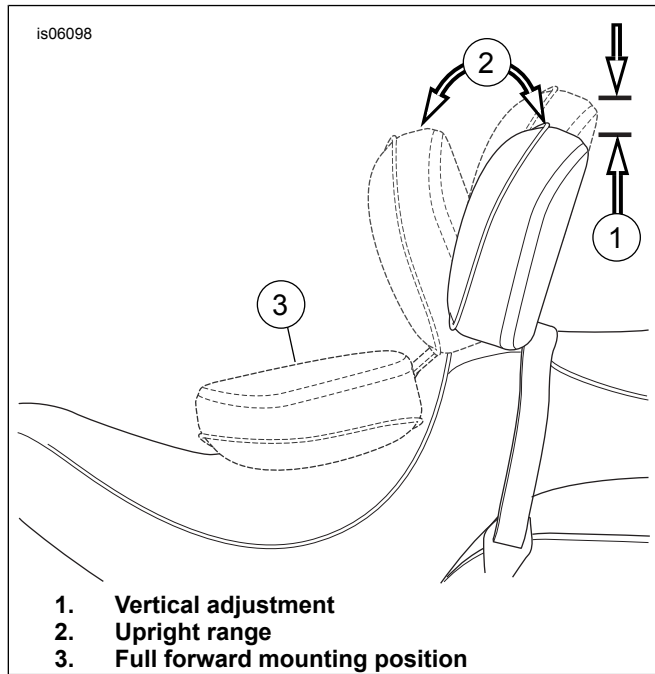

Figure 14. Backrest Positions
7. See Figure 14. With the backrest and seat in place, push the backrest to the fully forward position (3). The backrest mechanism presses against the underside of the seat and against the inserted seat protector.
1. See Figure 14. The adjustment handle is used to move the backrest pad into the forward and rearward positions.
2. To adjust the backrest pad forward or rearward (2), push the handle.
6. To adjust the backrest pad up and down (1), pull the knob on rear of pad.